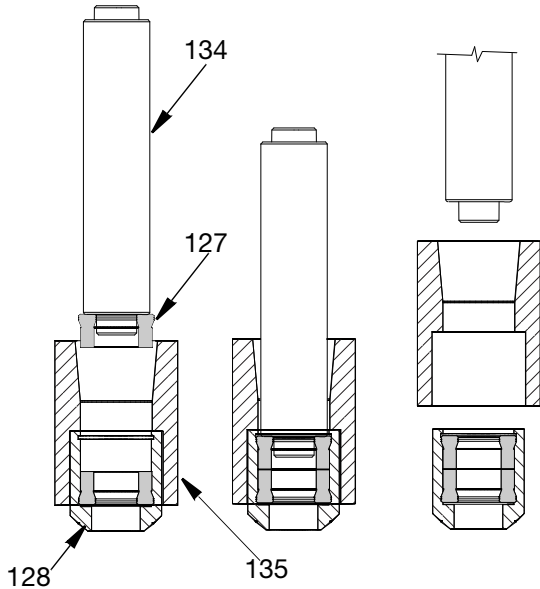

FIG. 18
5. Press the seal into the poppet inlet check valve (128) against the first lower shaft seal (127). See FIG. 18.